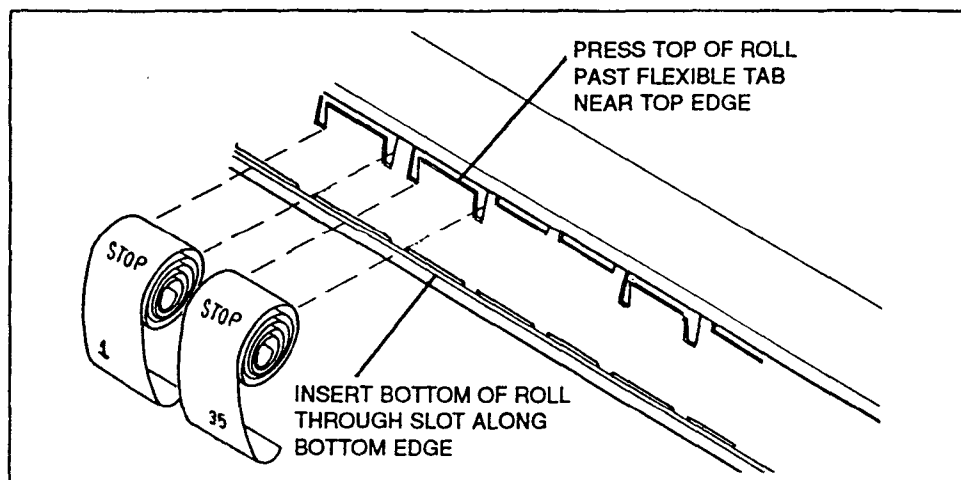

Figure FD-1b
- * Insert the dollar roll in the left slot below each column if the price is \$1.00 or more. See Figure FD-1b.
- * Insert the cents roll in the slot immediately to the right of the dollar roll. See Figure FD-1b.